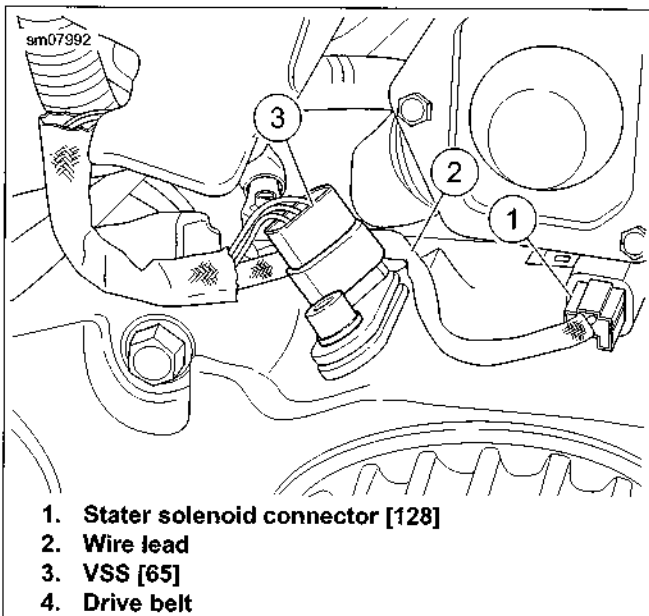

Figure 6-101. VSS [65] and Starter Solenoid [128] Wire Leads
See Figure 6-101. Route starter solenoid connector [128] (1) wire harness (2) behind VSS connector [128] (3) to prevent damage by drive belt.